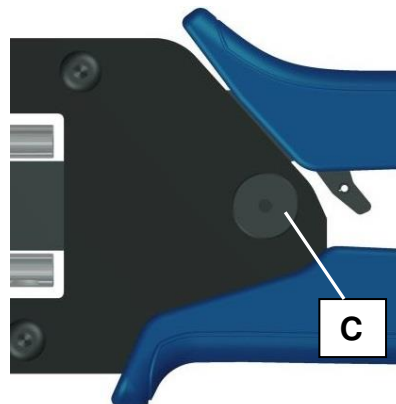

Fig.6.
1. Loosen knurled nut (C) by turning it counter clockwise (Fig.6.)